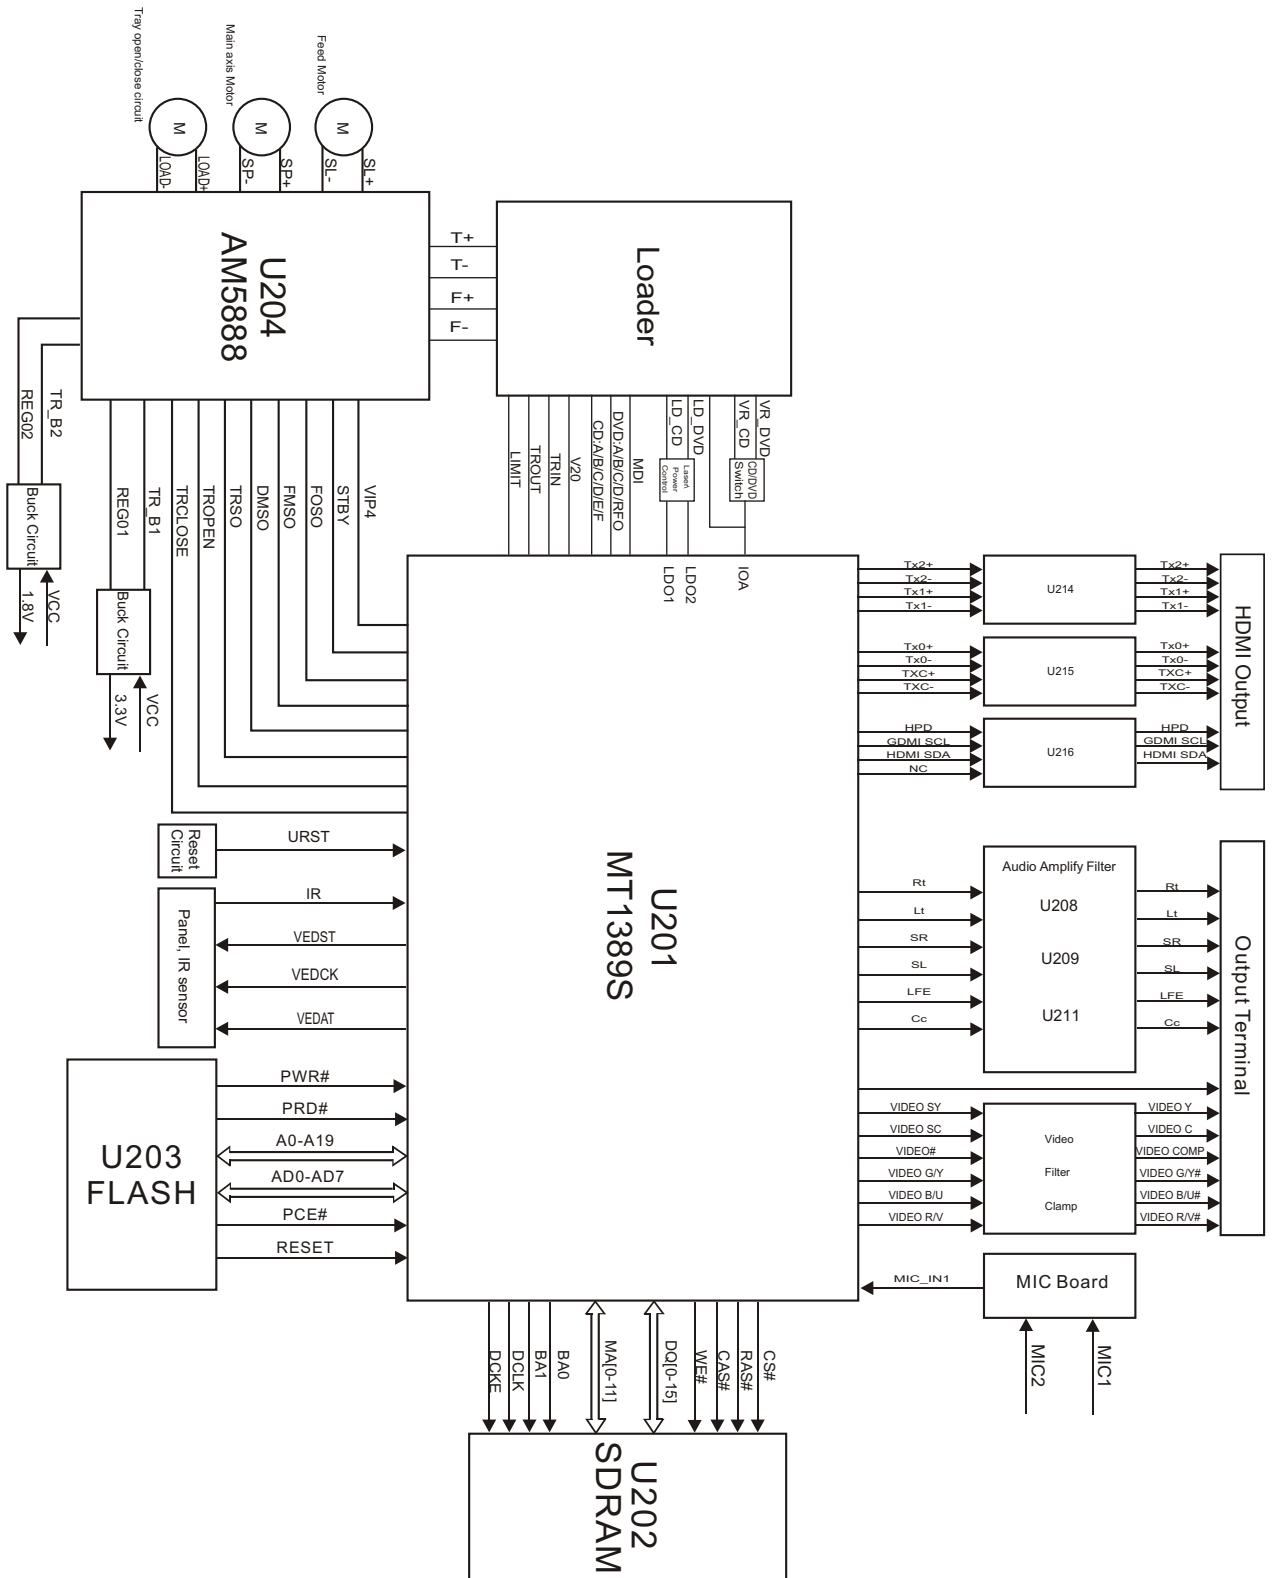

Figure 3.2.1 Block diagram of DV923HD(RU)
Block diagram for DV923HD(RU) player is shown in figure 3.2.1.